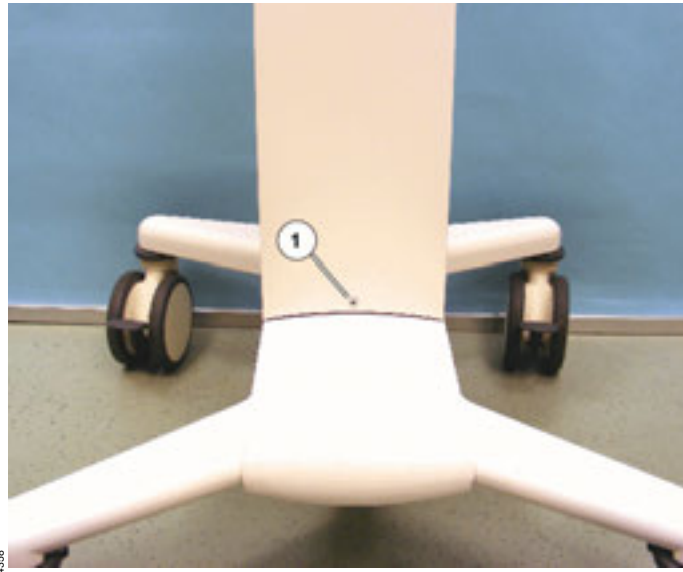

Fig. 102 Cover (external battery pack): Screw
- 2 Remove the screw (Fig. 102/1) from the cover.